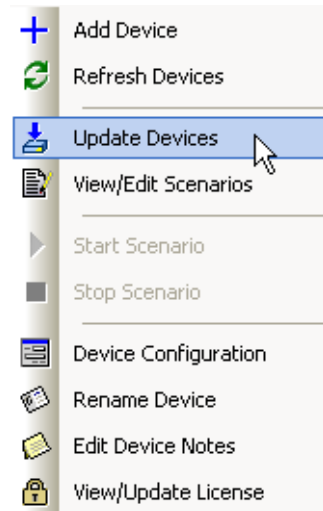

Figure 12 Device Pop-Up Menu
- Step 2** After selecting the device, right click and choose **Update Device** from the Popup menu (Figure 12).